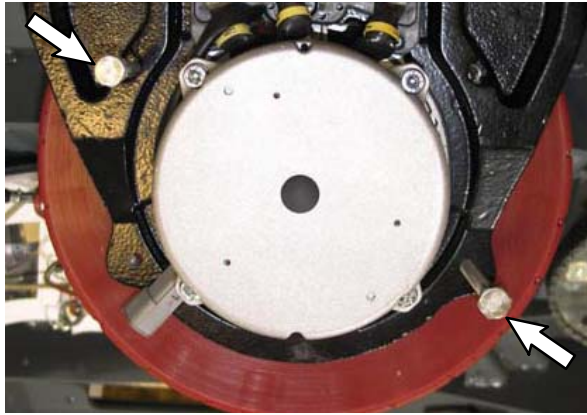

FIG. 2
- Use two hex screws (Screw, Hex, M10 X 1.50 X 100, FL, SS) to remove the wheel from the front wheel assembly. (Fig. 2)
- Remove the two hex screws (Screw, Hex, M10 X 1.50 X 100, FL, SS) from the front wheel assembly. (Fig. 2)